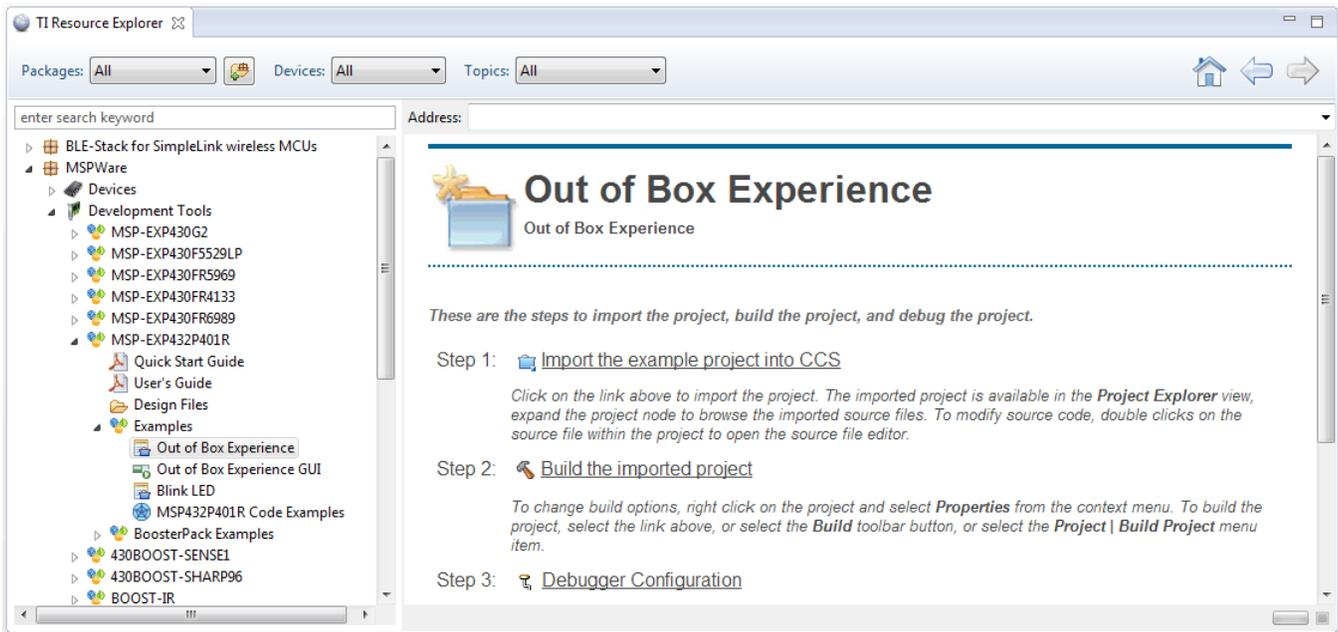

Figure 3. Out of Box Experience in MSPWare
3. Find the Out of Box Experience under the MSP-EXP432P401R Development Tools Examples, as shown in Figure 3.